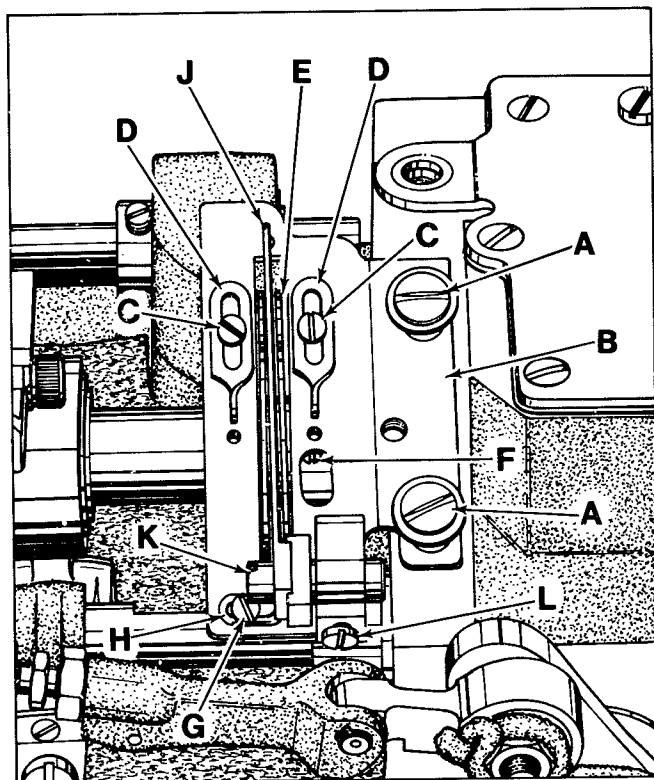

Fig. 19
- Loosen screws (A, Fig. 19) and center cast-off support plate (B) in its adjusting slots - front to back, then tighten screws (A).
- Loosen screws (C) and adjust eyelets (D) as required, so when the looper is at its extreme left the looper thread is taut across the cast-off support plate, then tighten screws (C). NOTE: Re-position eyelets (D) to the front to increase the